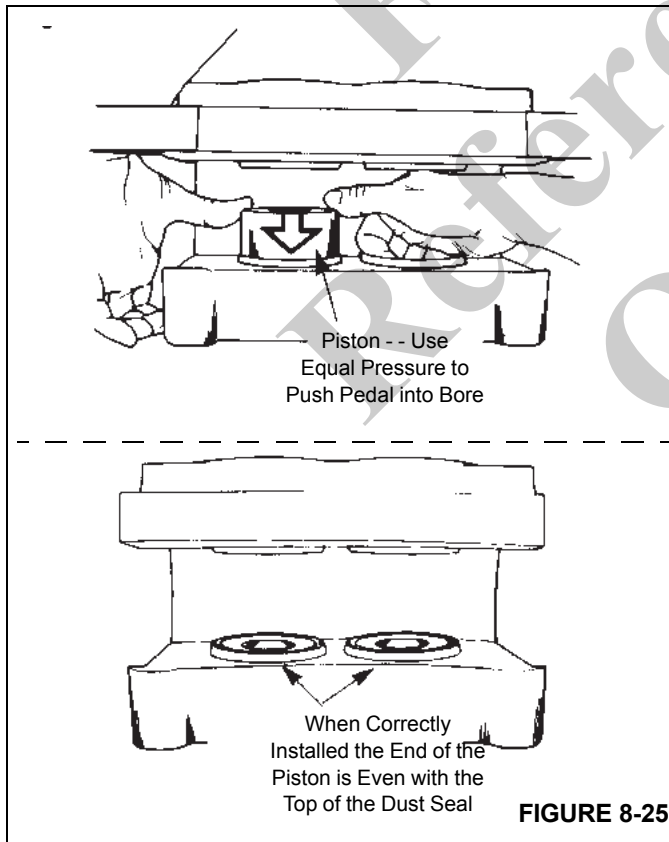

FIGURE 8-25
4. Install the pistons in the housing. Push the pistons in from the lining side of the housing. Ensure the pistons are straight in the bores. Push each piston into the bore until the top of the piston is even with the top of the dust seal. Refer to Figure 8-25.